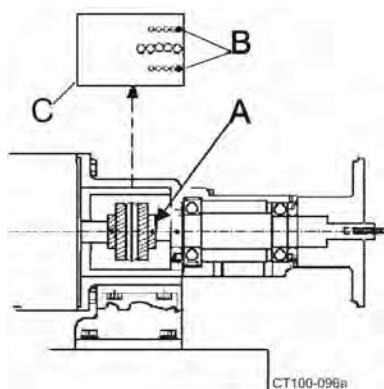

Figure 48 - Removing Coupling Covers
7. Remove the coupling cover cap screws. (Figure 48, item B).
8. Loosen the set screws on the pump coupling. (Figure 48, item A).